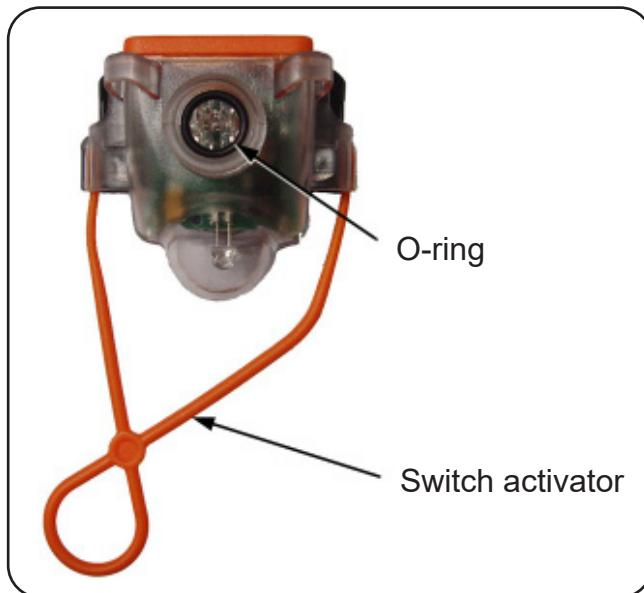

FIGURE 805
- (b) Attach the switch activator as shown in FIGURE 805. Make sure that the 'O' ring is seated correctly.